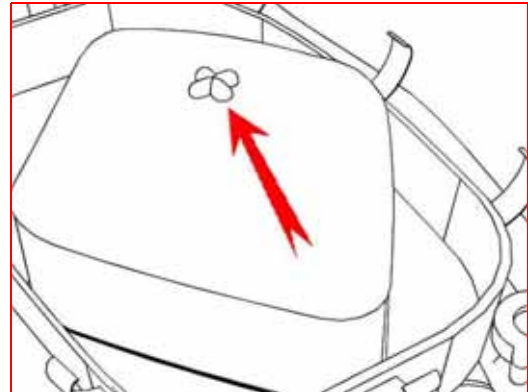

Fig 3
4. Remove the plastic nut, air filter cover and filter. (See figure 3)